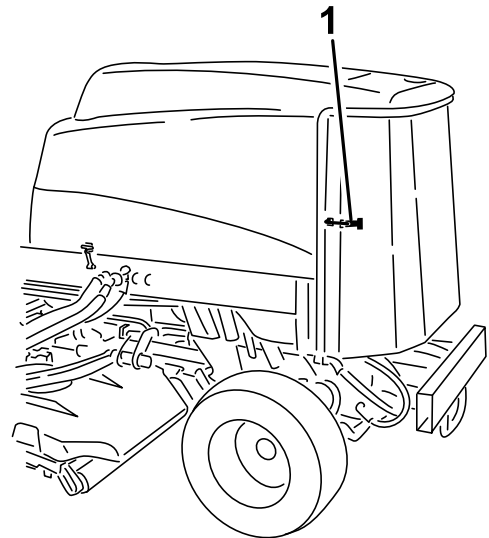

Figure 73
3. Unlatch and swing open the rear screen (Figure 73).